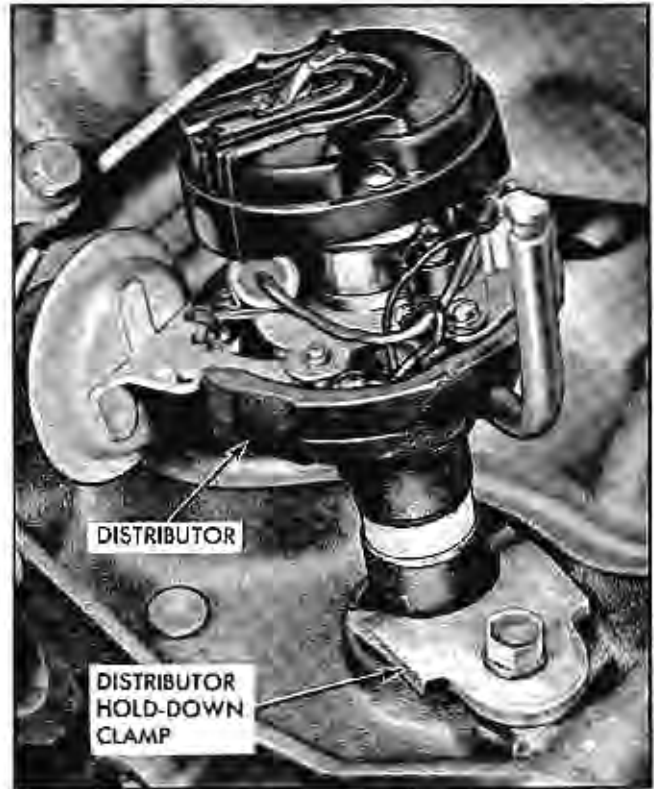

Fig. 6-76 Distributor Hold-Down Clamp
- b. Remove distributor hold down clamp (Fig. 6-76).